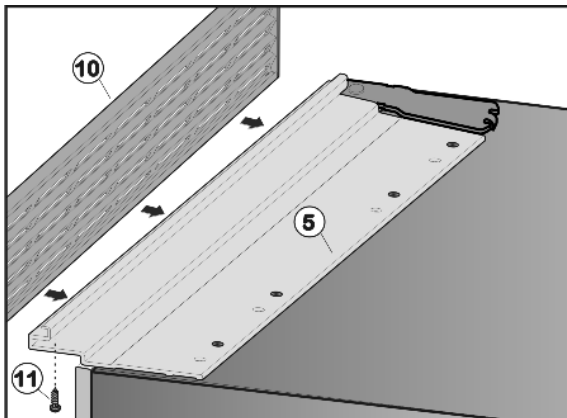

Fig. 49
- ▶ Position ventilation grille Fig. 49 (10) over the installation contour Fig. 49 (5) and align it such that the holes in ventilation grille and installation contour are above each other.
- ▶ Screw ventilation grille Fig. 49 (10) to installation contour Fig. 49 (5) from below using three screws Fig. 49 (11).